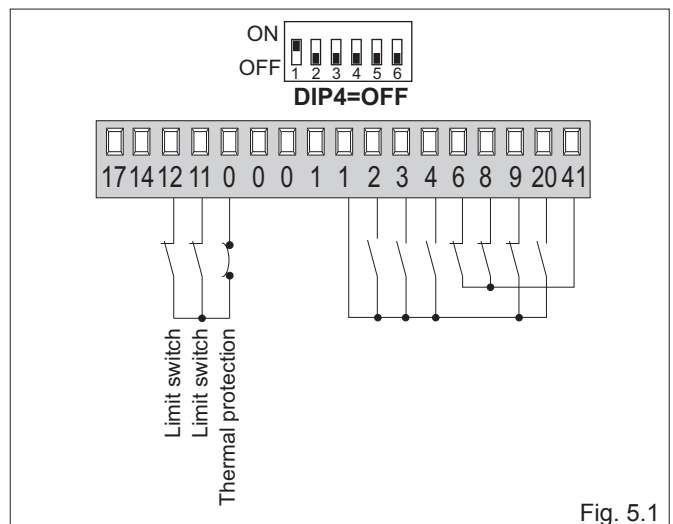

Fig. 5.1
- (Fig. 5.1) connect opening and closing limit switches N.C. contacts to plug 0-11-12.